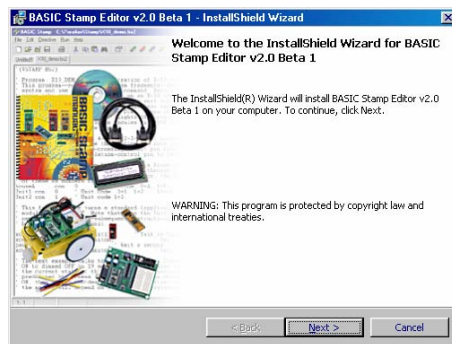

Figure 1-14
- ✓ When the BASIC Stamp Editor...InstallShield Wizard window opens, click the Next button shown in Figure 1-14.